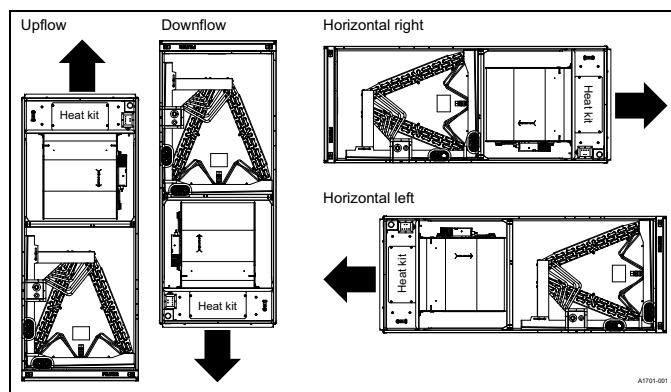

Figure 3: Typical installation
These air handler units are ready to install in any position shown in Figure 3. Some XAH model coils require a section of duct between the indoor coil and the modular air handler. See *Horizontal right applications*.
3. Position the air handler casing over the appropriate coil opening (depending on configuration). See **Figure 3**.